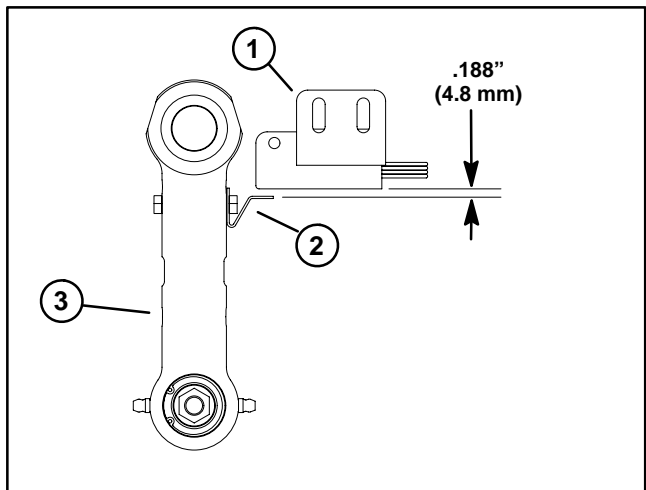

Figure 5
4. When adjusting switch location, the target surface of position switch should be approximately 0.188" (4.8 mm) from actuator tab on wing deck link (Fig. 5).